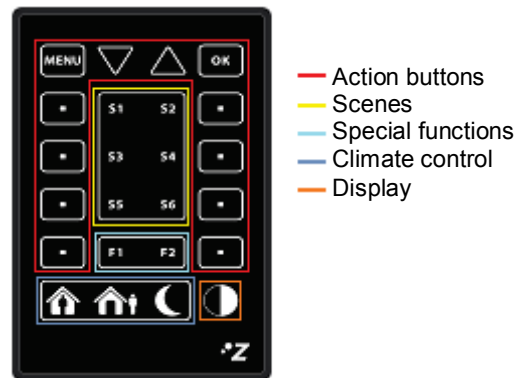

Figure 7. ZAS remote control
As shown by Figure 7, the buttons on the first row of the IR remote match those on the first row of the touch panel from ZAS, i.e., **Menu**, **Arrows** and **OK**.
- **Action buttons only for Page 1?:** this parameter sets if the action buttons of the remote control (see Figure 7) will only control the configuration established for page 1 (option "Yes") or if they will simulate the behaviour of the buttons of all (1-4) the configured pages (option "No").
- **Scene 1-6 (S1-S6):** these parameters allow establishing the scene values (1-64) to be sent to the KNX bus (through "[General] Scene: send") when the user presses the scene buttons on the remote control (see Figure 7).
- **HVAC mode buttons:** this parameter allows setting the control type performed by the climate buttons on the remote (see Figure 7). On the one hand, it is possible to enable a **direct control** of the special modes for thermostats 1 and 2, being therefore possible to simulate, with every press, the arrival of a new special mode order to the corresponding object ("[Tx] Special mode"), without linking any group address.